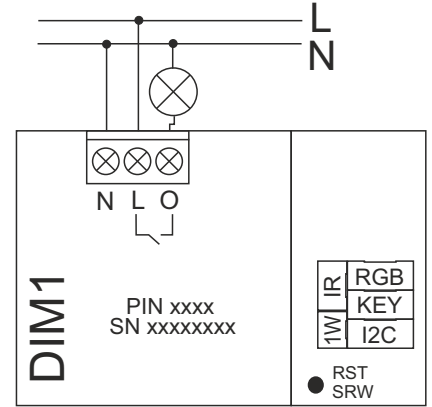

Fig.1 Connection diagram
1. Note of the card PIN and Serial Number (SN) device (Both located on the housing of the device)
2. Connect the wires N, L, O, according to Fig. 1